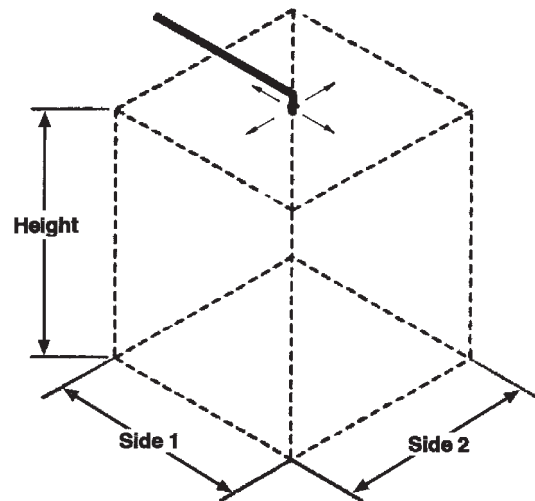

FIGURE 1
The nozzle is to be mounted in the center (See Note) of the protected area, with the discharge holes in the nozzle no greater than six (6) inches from the ceiling. For duct protection, the nozzle is to be mounted in the center. See Figure 1.